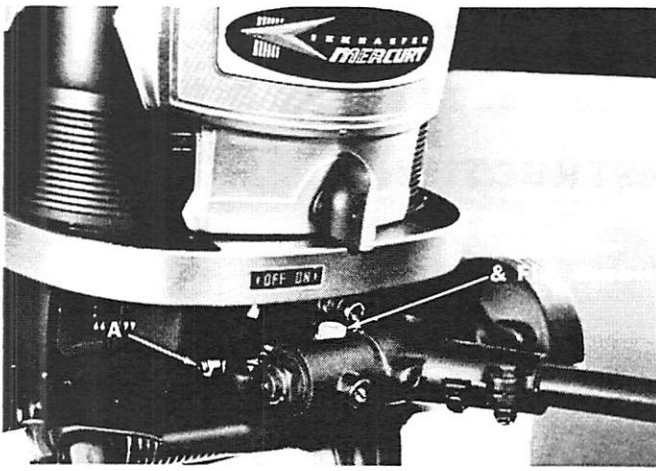
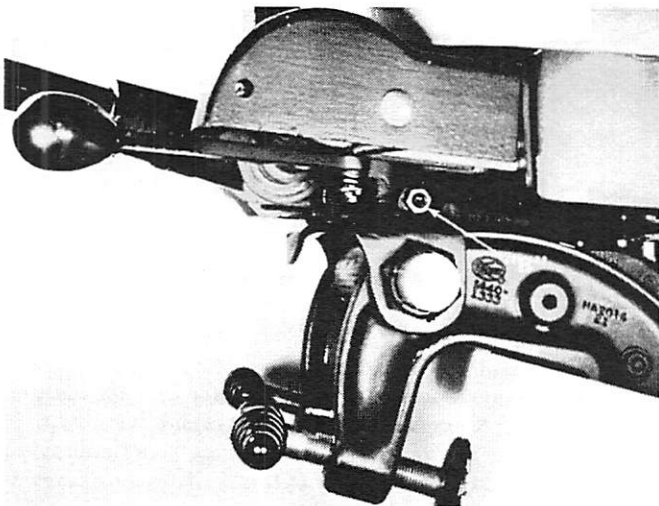

Figure 5. Handle Assembly Installed & Set Screw
Figure 6. Handle Assembly Installed & Set Screw
4. Insert throttle and shift link rods thru opening in left side of cowl and place handle assembly in position on engine steering lever. (Figure 5)
5. Fasten handle assembly to engine steering lever with 3/8-24x1-1/2" long screw, lockwasher and flat washer which are in plastic bag. Tighten screw securely. (Figure 5)
6. Tighten set screws ("A" in Figure 5 and "B" in Figure 6) securely. Tighten jam nuts, which are threaded on set screws, securely.